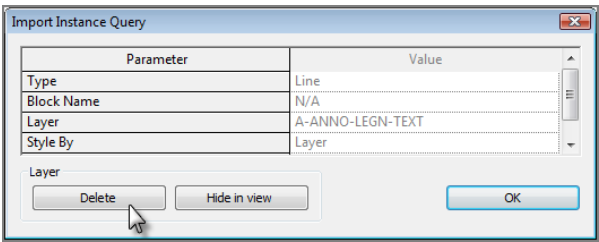

FIGURE 11.55: You can query items in the CAD import. You can also delete items.
5. After you select the line, Revit reports information to you about that line. You’re also given the chance to delete the layer. Click Delete, as shown in Figure 11.55.